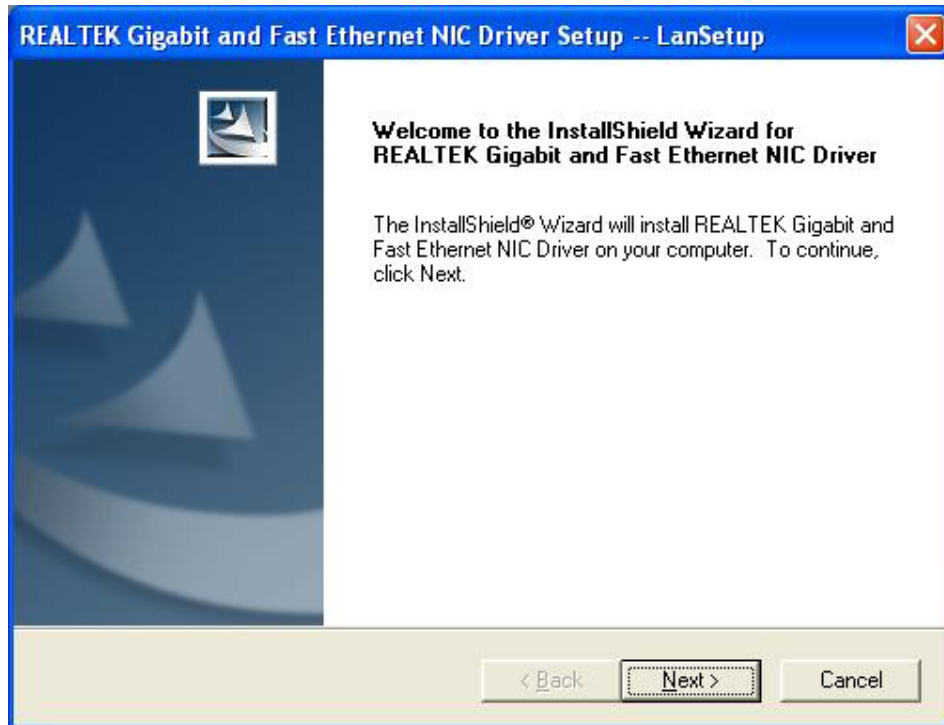

Figure 6-21: LAN Driver Welcome Screen
Step 4: Once the **Setup** icon is double clicked, a **Welcome** screen shown in **Figure 6-21** appears.